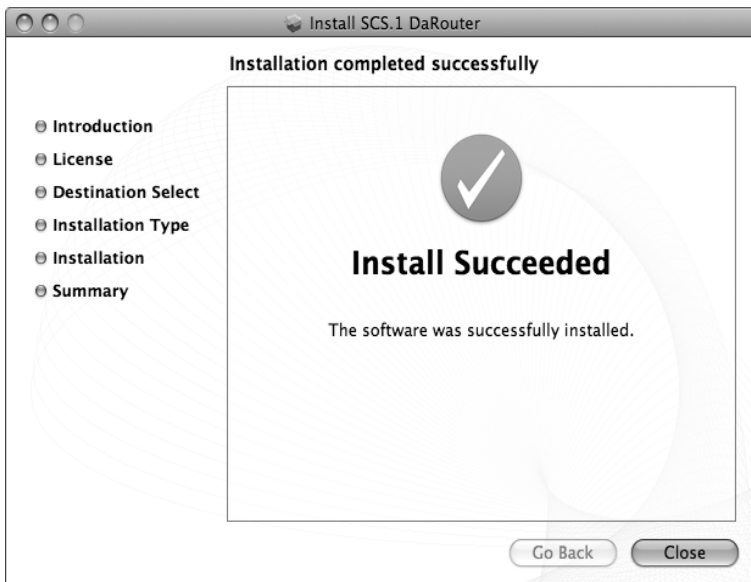

Figure 4.21
- DaRouter will be installed. Once done, click **Close**. (Figure 4.21)